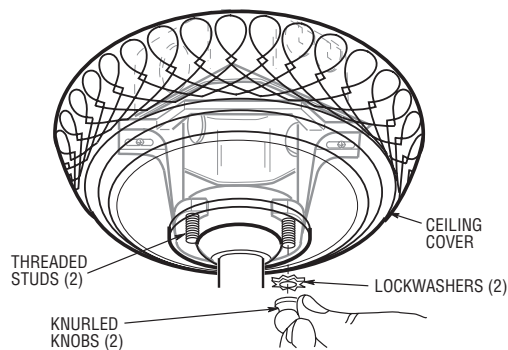

Figure 18
- 4. Lift the ceiling cover up to the threaded studs and turn until studs protrude through the holes in the ceiling cover (Figure 18).
- 5. Secure the ceiling cover in place by sliding lockwashers over the threaded studs and installing the two knurled knobs (supplied). (Figure 18). Tighten the knurled knobs securely until the ceiling cover fits snugly against the ceiling and the hole in the ceiling cover is clear of the downrod. Your fan is now wired to be turned on and off from the fan switch.